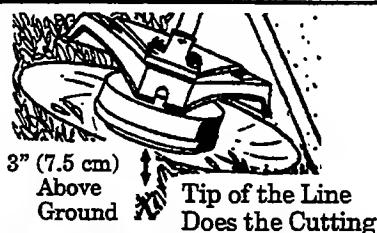

Figure 11
1. **TRIMMING** – Figure 11. Hold bottom of the trimmer head about 3" (7.5 cm) above ground and at an angle. Allow only the tip of the line to make contact. Do not force trimmer line into work area.